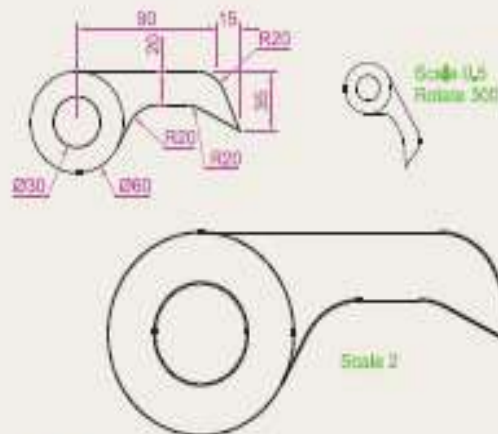

Fig. 5.54 Exercise 8
8. Construct the dimensioned drawing of Fig. 5.54. With **Copy** copy the drawing. Then with **Scale** scale the drawing to a scale of 0.5, followed by using **Rotate** to rotate the drawing through an angle of as shown. Finally, scale the original drawing to a scale of 2:1.